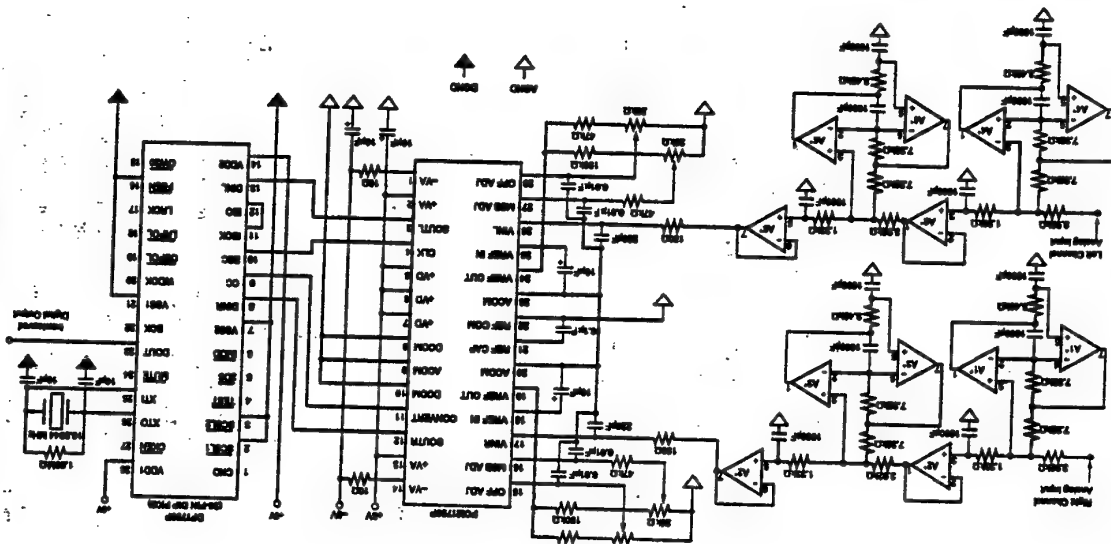

FIGURE 9. Complete Sampling A/D Circuit with Anti-aliasing and Digital Filter, (44.1kHz output data rate).
Both P18 and P25 (VREF_{in}) should be bypassed with a 10 μF to 47 μF tantalum capacitor. If there are important system reasons for using the PCM1750 reference externally, the outputs of P19 and P24 must be appropriately buffered, and bypassed (see Figure 9).
Figure 9 is a partial schematic of the demonstration fixture for the PCM1750 (orderable by model number DEM1133). It shows the implementation of (1) a 6th order, linear-phase, anti-aliasing filter (22kHz low-pass); (2) the PCM1750 A/D converter; and (3) a 4X digital decimation filter called